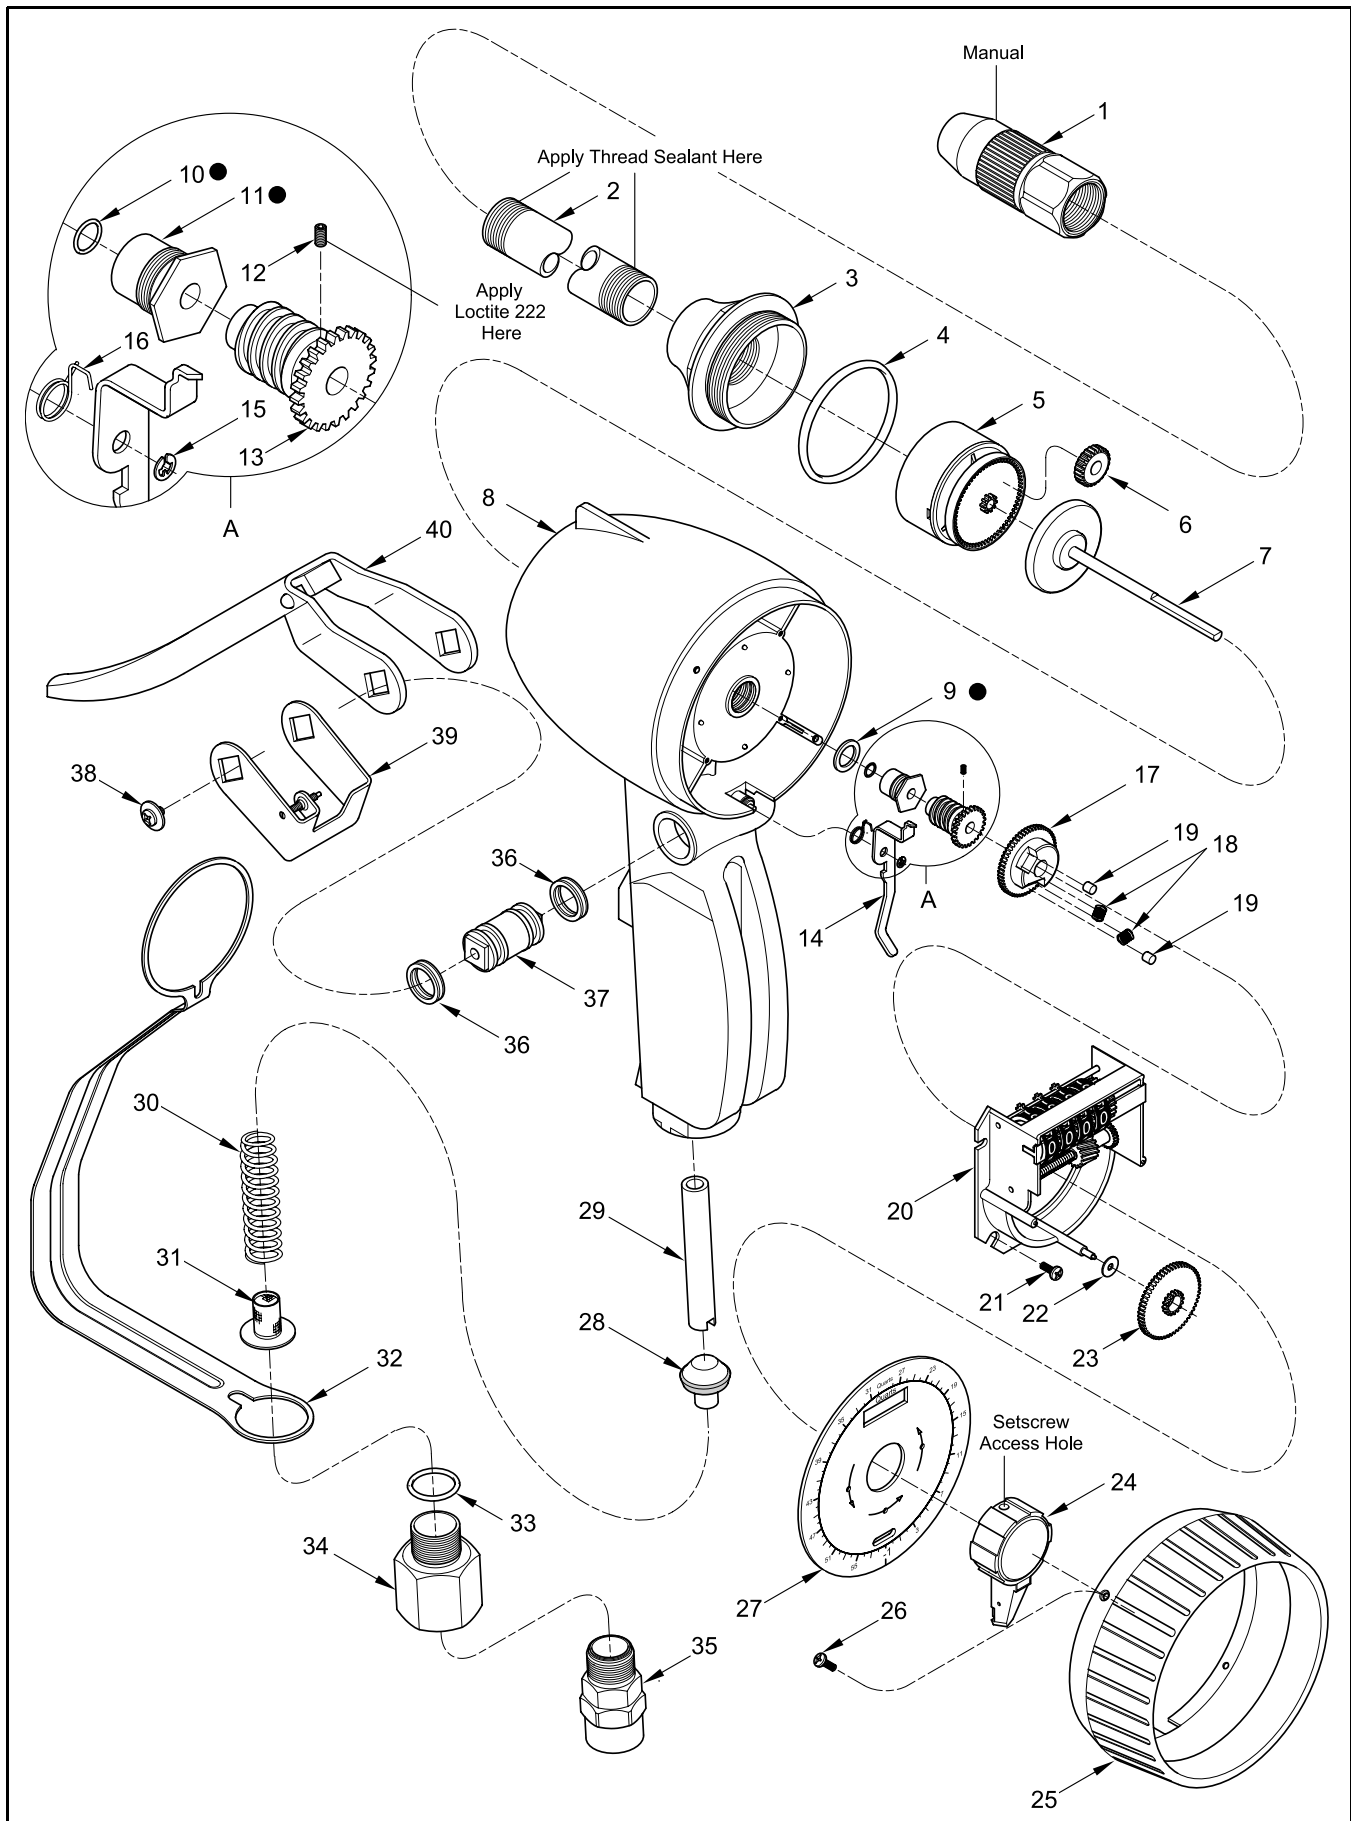

Figure 2 Preset Metered Control Valve Models 3690-C, 3691-C, 3693-C, and 3696-C
NOTE: Refer to **Figure 2** for component identification on all overhaul procedures.
3. Unscrew Screws (26) that secure Shroud (25) to Housing (8)
4. Turn Pointer (24) counterclockwise until the access hole in the Pointer lines up with the setscrew.
- See **Figure 2**.
5. Loosen the setscrew that secures the Pointer to Spindle and Gear Assembly (7).
6. Remove Dial (27) Cam (17), and Pointer (24) as an assembly from the Spindle and Gear Assembly.
8. Remove Springs (18) and Rollers (19) from the Cam.
9. Remove Retaining Ring (15) that secures Lock Pawl (14) to the Housing.
- Remove the Lock Pawl and Spring (16) from the Housing.
10. Remove Pointer Gear (23) and Washer (22) from Register Assembly (20).
11. Loosen Setscrew (12) that secures Worm Gear (13) to the Spindle and Gear Assembly.
12. Remove Screws (21) that secure the Register Assembly to the Housing.